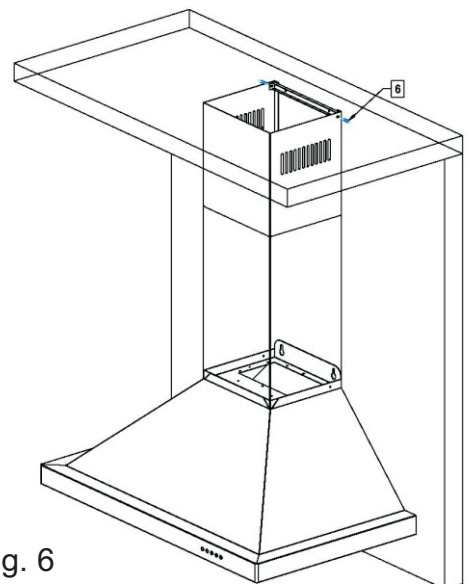

fig. 6
Step 7: Slide the upper portion up and over the top mounting bracket aligning the holes and securing with the screws provided. fig. 6